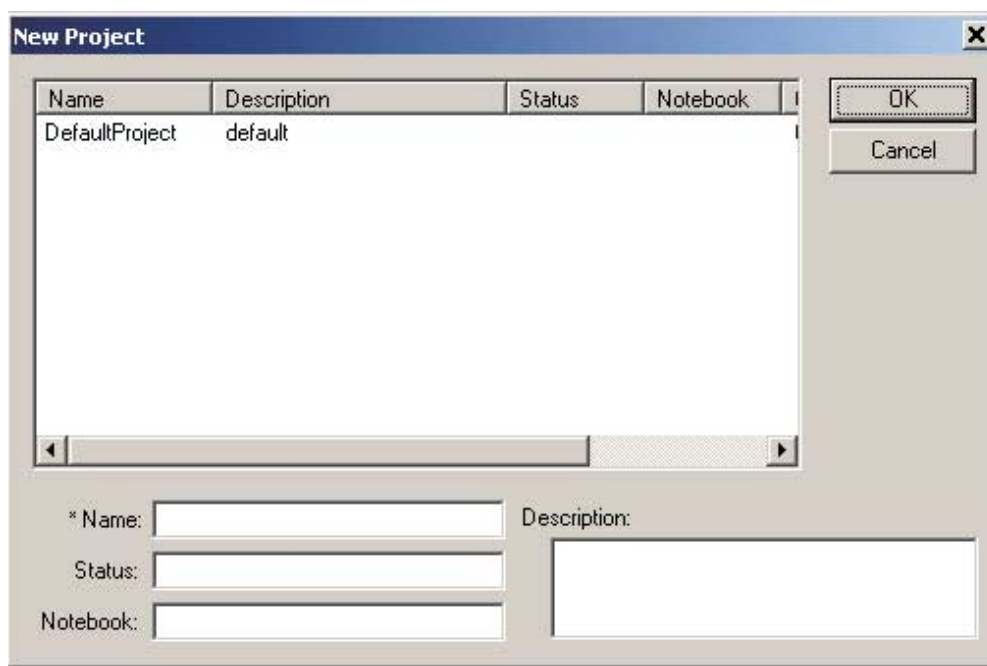

Figure 2-11: The *New Project* dialog.
1. To create a new project, select the **New | Project...** item from the **File** menu, which will open the **New Project** dialog (Figure 2-11).